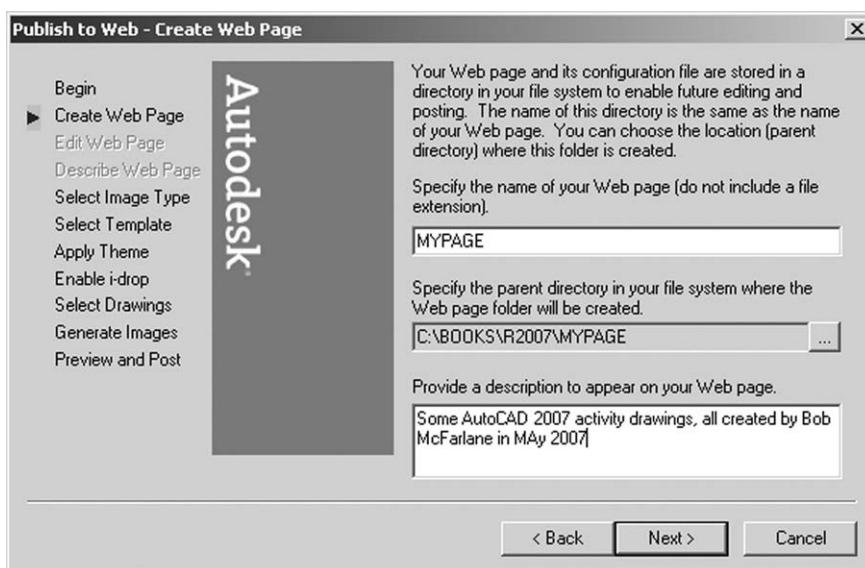

Figure 37.3 The Publish to Web – Create Web Page dialogue box.
c) Add any suitable description – Figure 37.3